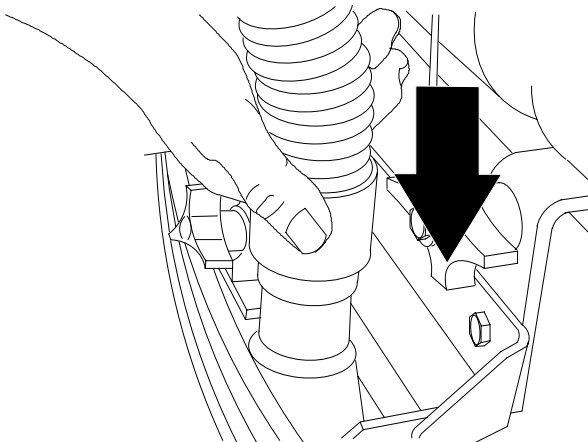

**FIG. 2.**
3. To remove the brush or pad driver, push down on the brush release pin, located on the scrubber head, behind each scrub motor (Figure 2).